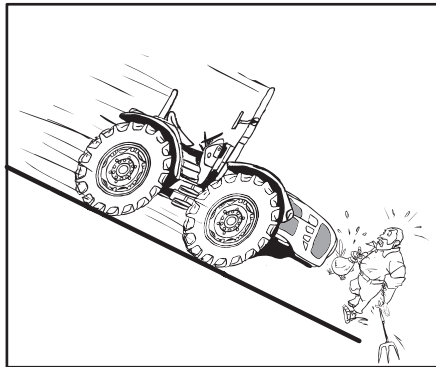

Fig. 2.23
- Keep the gear engaged. Never drive downhill with the clutch disengaged or the gear in neutral (Fig. 2.23).